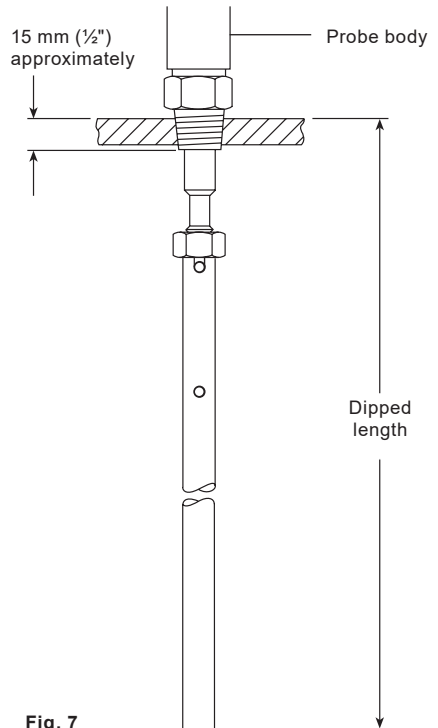

Fig. 7
- Screw the probe tip onto the probe until the hole in the probe lines up with the bottom of the slot in the probe tip (see Figure 7).
- Use a fine hacksaw to cut the probe tip to this length (see Figure 7).